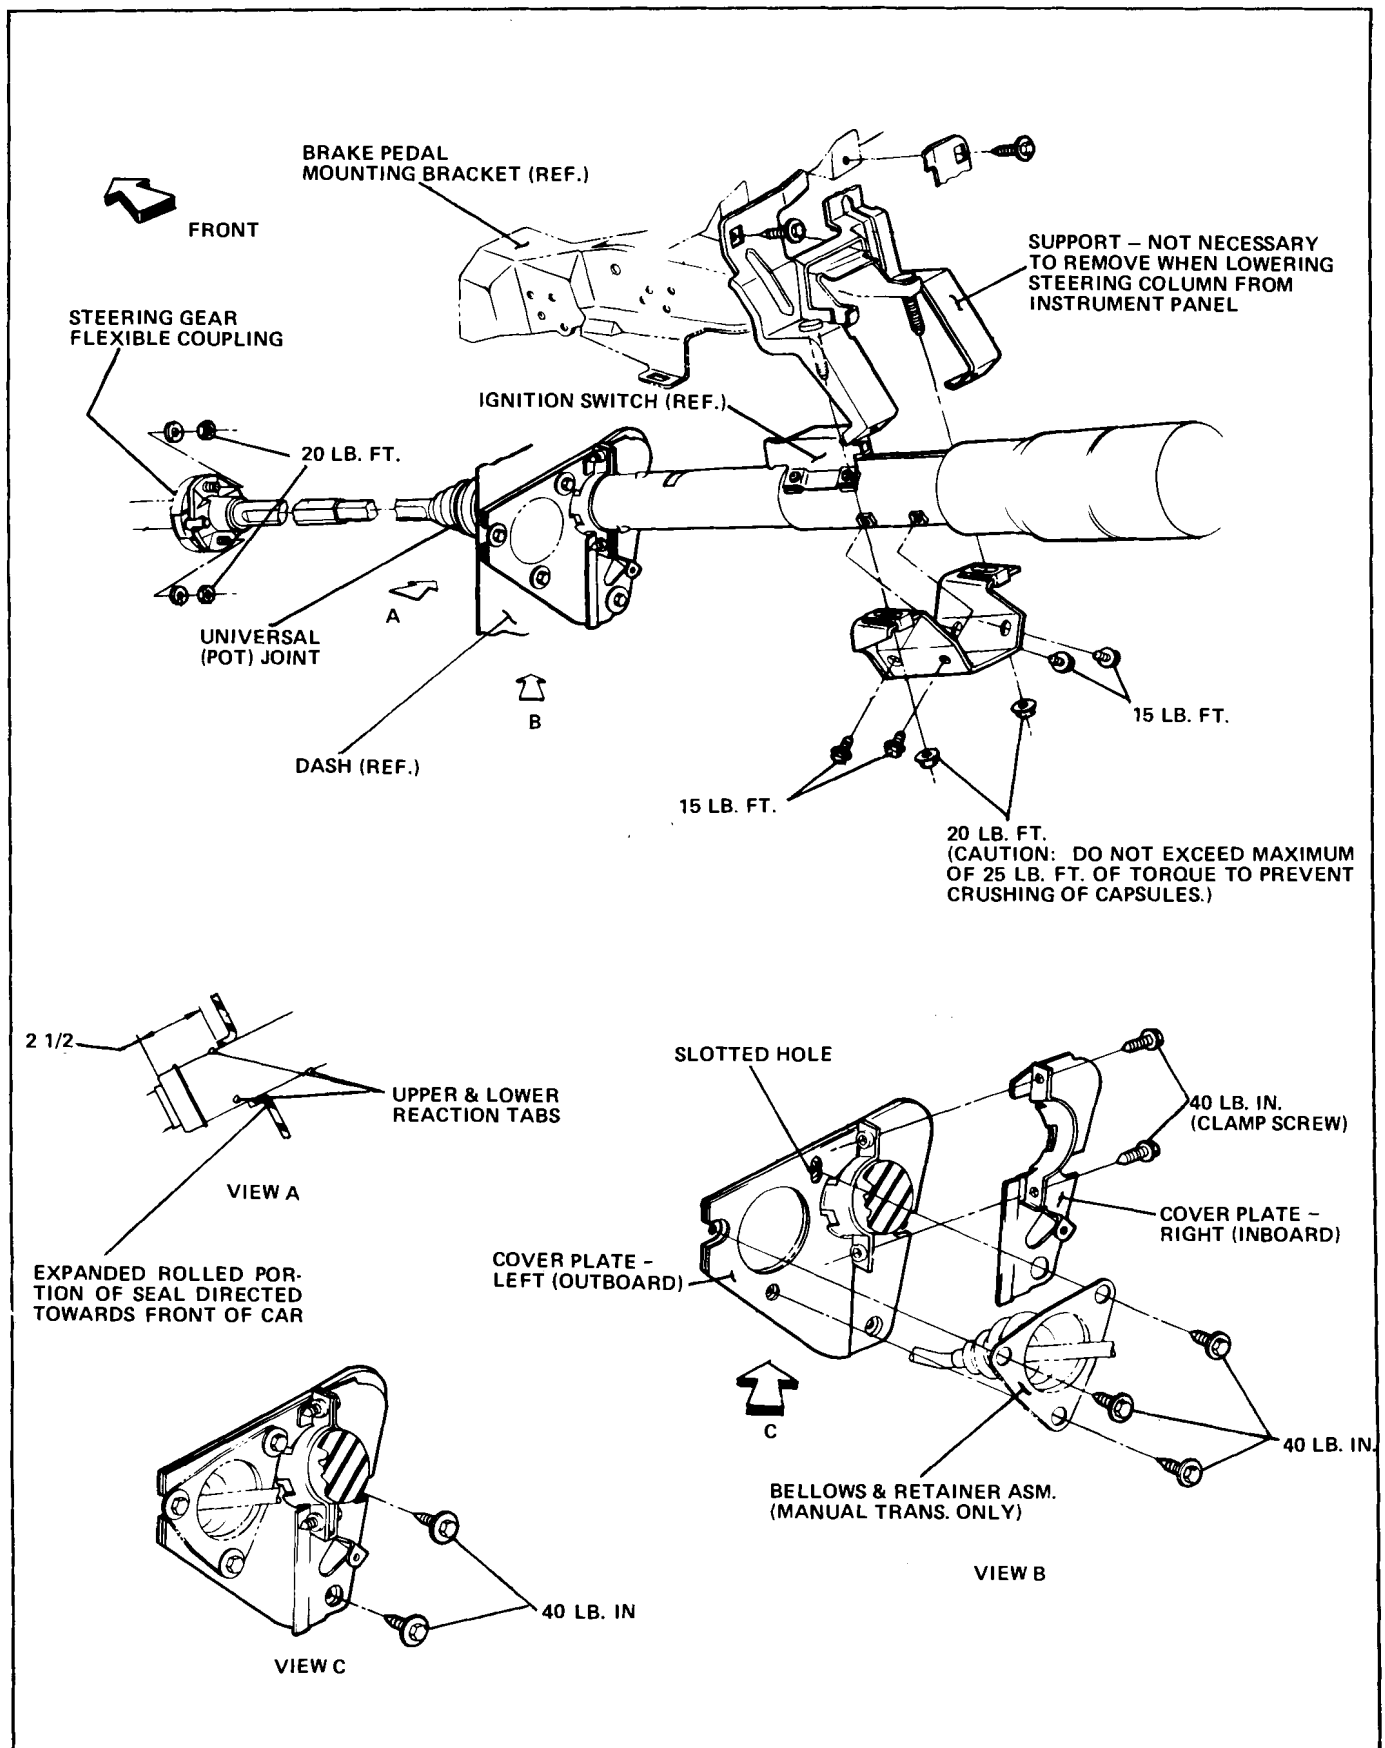

Fig. 9-33 Installation of Steering Column (A & G Series)
1. Position steering column in car and attach steering shaft flange to steering gear flexible coupling and tighten coupling nuts to 20 lb. ft. torque (Fig. 9-33).